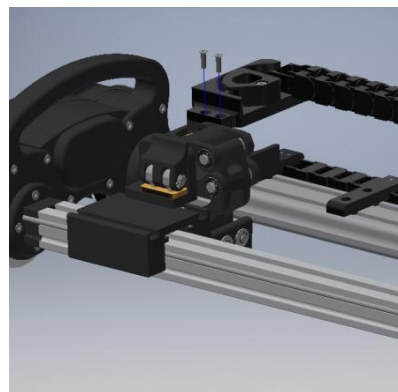

Figure 2
- 3) Remove the 2 M4x14 FHCS from the Upper Bulkhead Assembly (Figure 2)